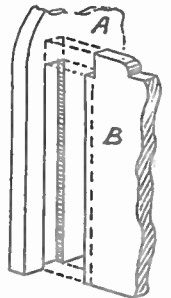

Fig. 5—How the side pieces are housed in the partitions
gluing up. Fig. 5 gives a detail of the finished joint ready for assembly. Glue each pair of uprights together and then glue pieces (A) into the mortises of the back. Run countersunk screws up through the base into the back and the four uprights. Clean off the backs of the tenons with glasspaper to make a clean and neat surface.